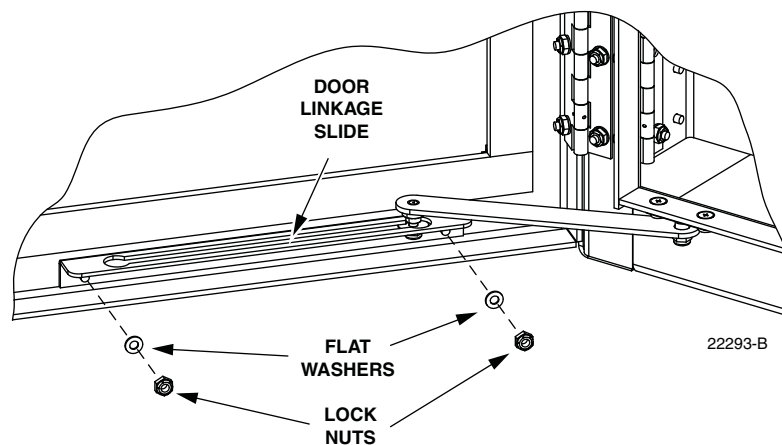

Figure 79. Door Linkage Hardware
2. Use a 3/8-inch nut driver to remove the two lock nuts and flat washers that secure the door linkage slide to the door as shown in Figure 79. Save the nuts and washers for reuse.